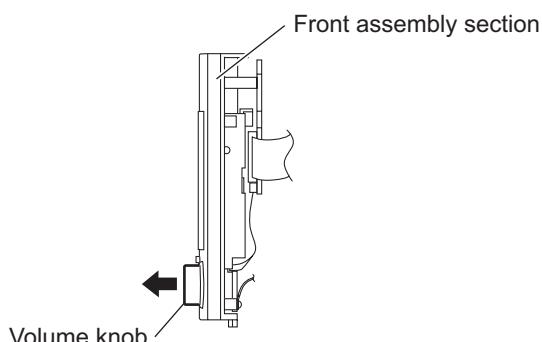

Fig.21
3.2.2 Removing the switch board (See Figs.21 and 22)
- From the front side of the front assembly section, pull out the volume knob in the direction of the arrow. (See Fig.21.)